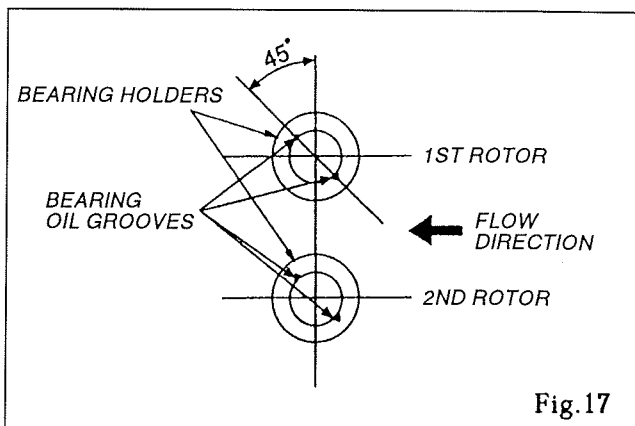
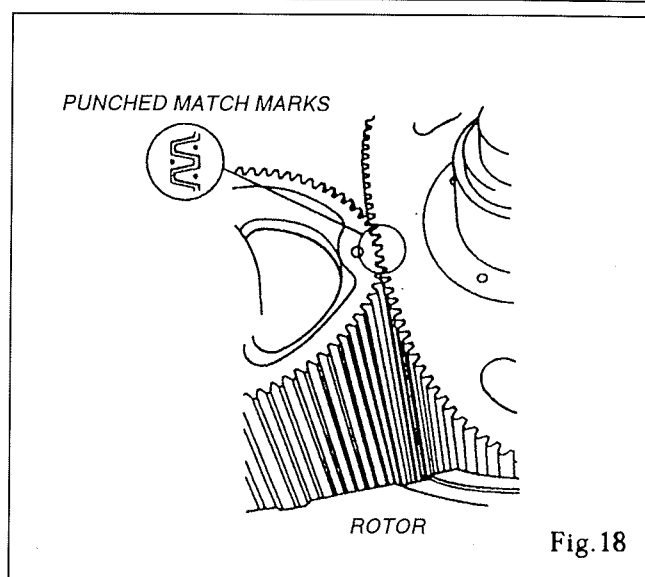

Fig.17
Fig.18
- b. The orientation of oil grooves (V-grooves) in the rotor shafts should conform to Fig. 17.
- c. Install rotors in line with non-turn setscrews (213) of the bearing holder.
- ② Be sure to align match marks on the tooth end face when installing the Oval rotors (Fig. 18).
- ③ Apply grease to thrust rings for attachment before their installation on the rear covers.
- ➡ **NOTE:** Be sure to install thrust rings with match marks aligned. Incorrect installation might result in faulty measuring chamber-to-rotor clearance (see NOTE (8) in DISASSEMBLY AND INSPECTION).